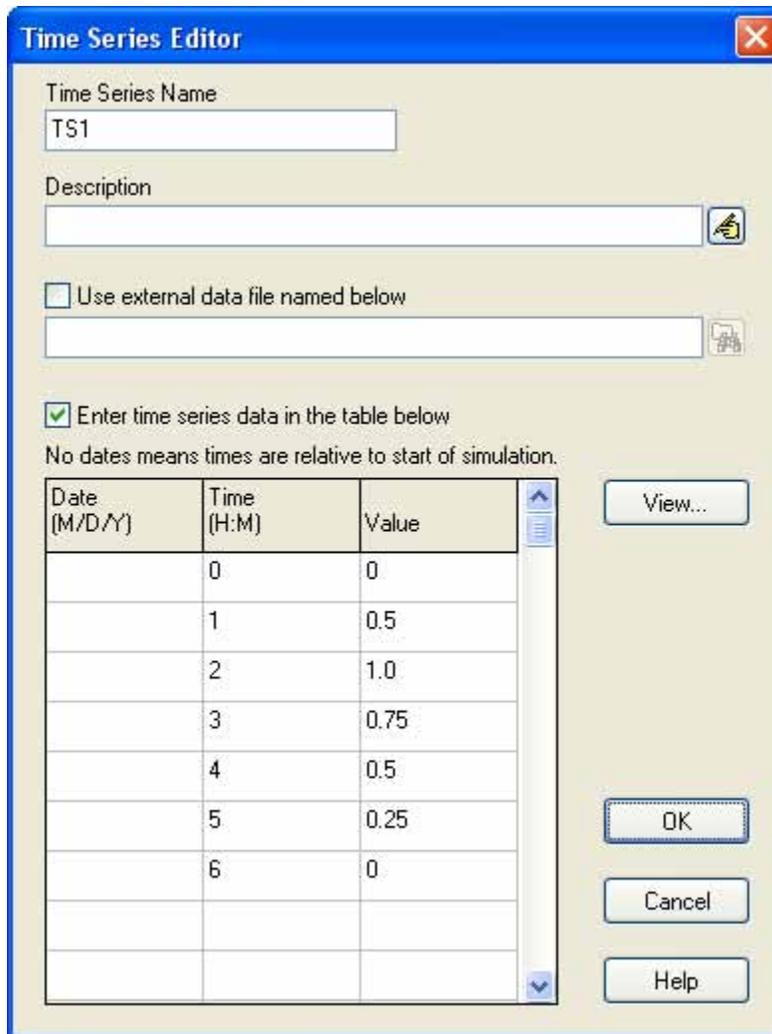

Figure 2-7. Time Series Editor.
2. Click the **+** button on the Browser to bring up the Time Series Editor dialog (see Figure 2-7)⁷.
4. Enter the values shown in Figure 2-7 into the *Time* and *Value* columns of the data entry grid (leave the *Date* column blank⁸).